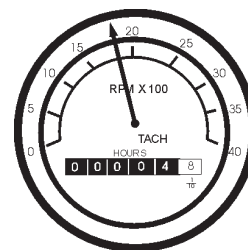

Figure 50. Engine Tachometer
16. The tachometer (Figure 50) will indicate the speed of the engine when the generator is operating. Under normal operating conditions this speed is approximately 1800 RPM's.